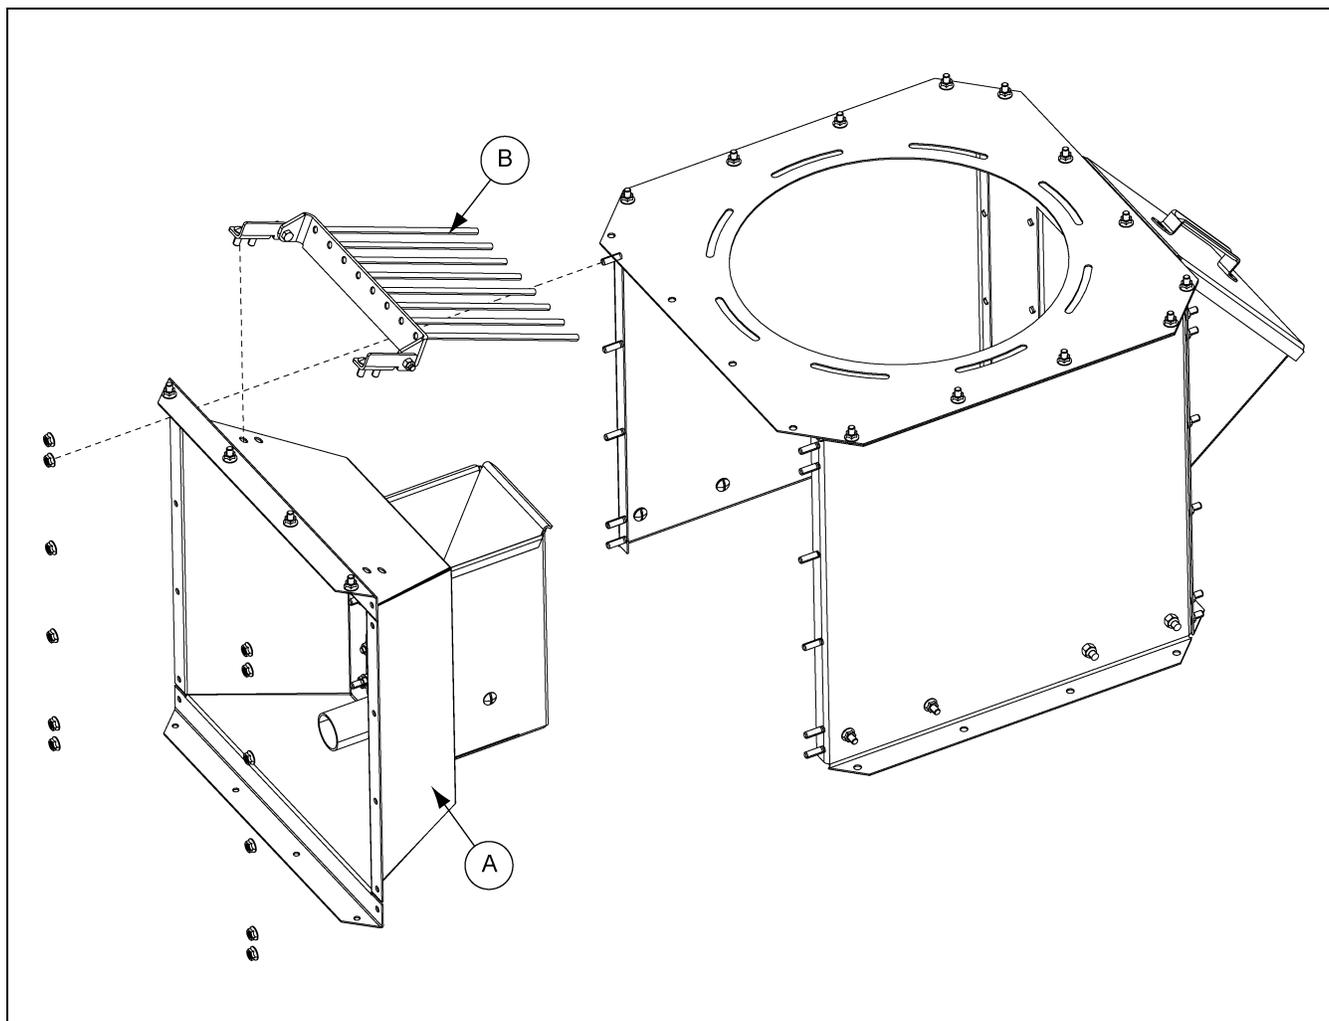

Figure 2C *Installing New Front Panel*
4. Re-install the finger guard (B) and moisture sensor to the new front panel assembly (A).
5. Install the new front panel (A) to the moisture sampler assembly. *(See Figure 2C.)*